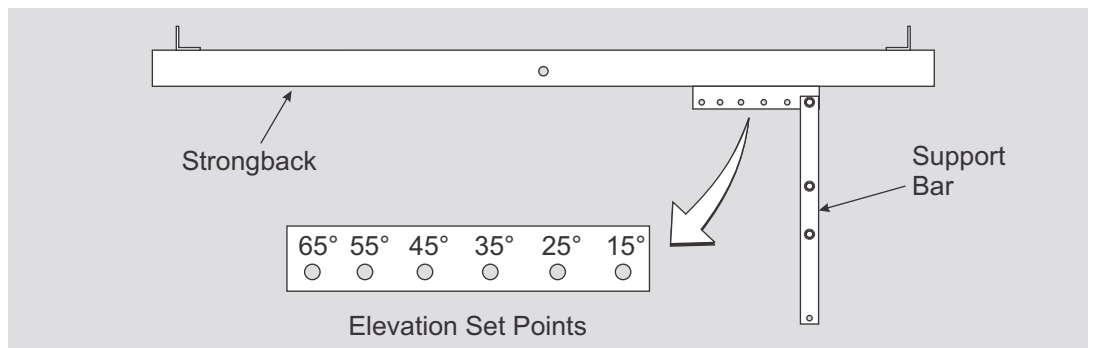

Figure 7-2: Setting the Tilt Angle
- B. Tilt the rack to the desired elevation angle (15°, 25°, 35°, 45°, 55°, or 65°) and re-attach the Support Bar to the Strongback placing the 3/8" hardware in the appropriate hole matching the desired elevation. **Torque at 32-34 ft.-lbs.** (See Figure 7-2)